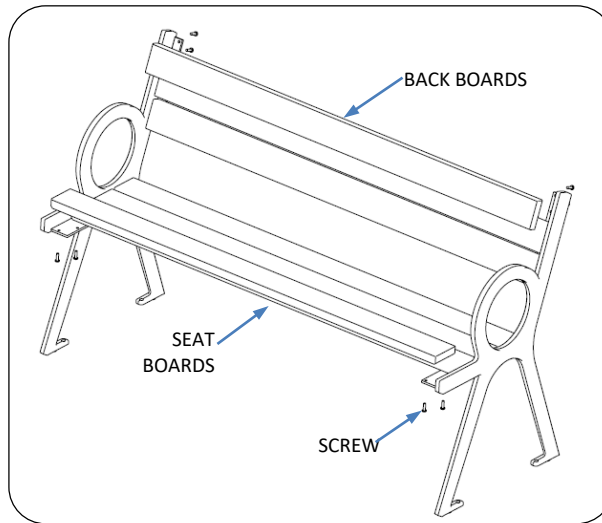

Fig. 3 – install boards
2. Starting with an end section, attach boards to support, see Fig. 3. Datum holes on boards should be aligned to one side, see Fig. 5 and Fig. 6.